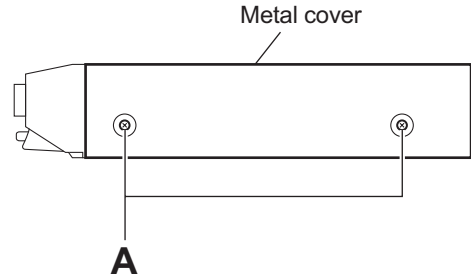

Fig.1
(See Figs.1 to 4)
- (1) From the right and left sides of the main body, remove the four screws **A** attaching the metal cover. (See Figs.1 and 2.)